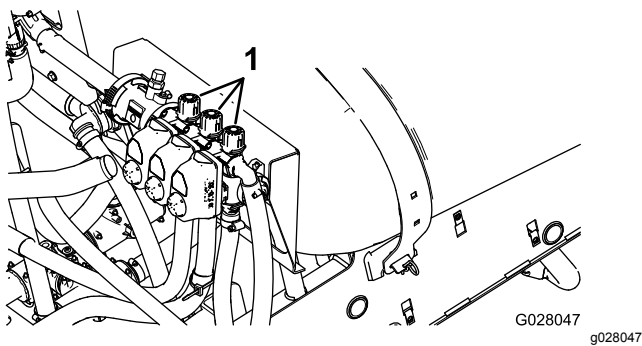

Figure 17
11. Turn off the left boom and adjust the boom bypass knob (Figure 17) until the pressure reading is at the previously adjusted level (typically 40 psi or 2.75 bar).
13. Adjust the right boom bypass knob (Figure 17) until the pressure reading is at the previously adjusted level (typically 40 psi or 2.75 bar).
15. Adjust the center boom bypass knob (Figure 17) until the pressure reading is at the previously adjusted level (typically 40 psi or 2.75 bar).